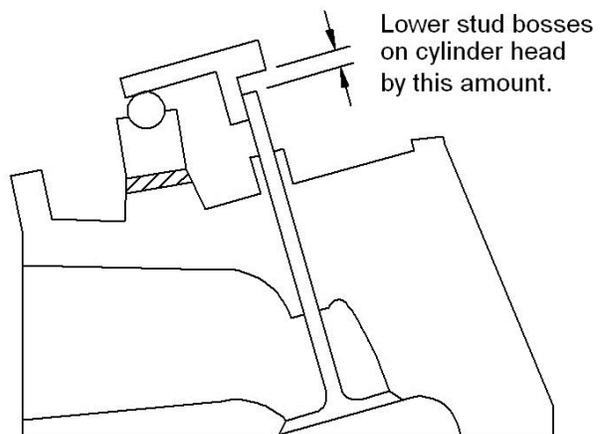

Figure 2
- e. If the gage contacts the shaft before touching the top of the valve stem, as shown in figure 2, a corresponding amount of material should be machined from the stud bosses on the cylinder head, which will lower the rocker stand. Alternately, a lash cap (Crane Cams P/N 99421-20 or equivalent) can be installed on the valve tip, to extend its length, but machining the boss is preferred.